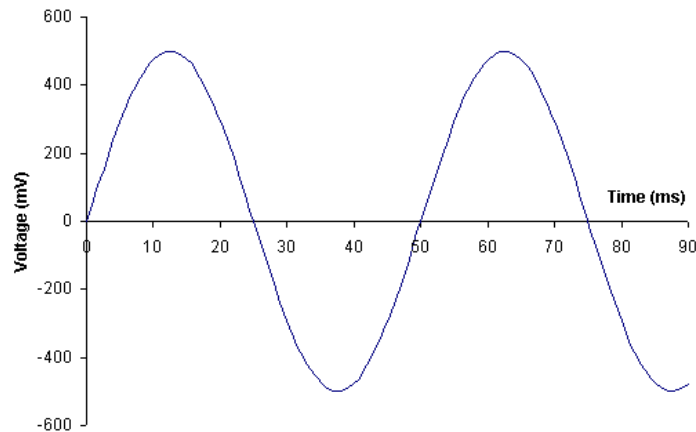

Figure 4. Example of RF waveform signal
- *RF signal*: your GUI should represent graphically the Radio-Frequency (RF) signal. Use Figure 4 as inspiration for this representation. Your graph should change dynamically according to the input parameters: